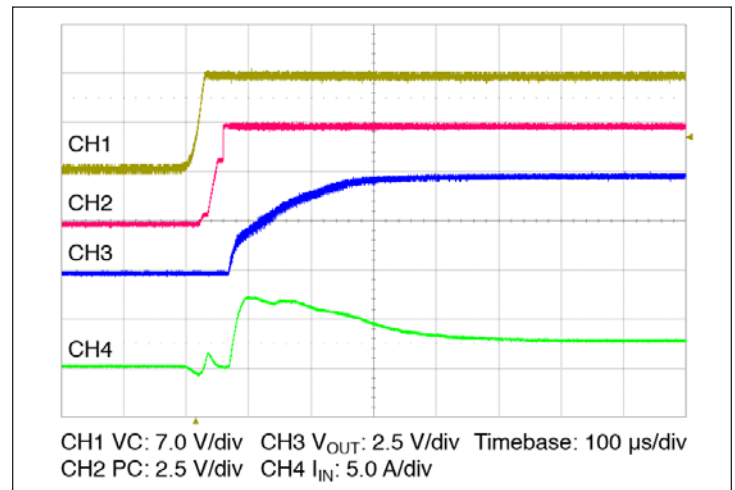

Figure 14 — Start up from application of V_C ; V_{IN} pre-applied
- Stand Alone Operation (VC applied after V_{IN}): In this case the module output will begin to rise upon the application of the VC voltage (See Figure 14). The Adaptive Soft Start circuit (See Section 10) may vary the output rate of rise in order to limit the inrush current to its maximum level. When starting into high capacitance, or a short, the output current will be limited for a maximum of 900 μ sec. After this period, the adaptive soft start circuit will time out and the module may shut down. No restart will be attempted until VC is re-applied, or PC is toggled. The maximum output capacitance is limited to 2000 μ F in this mode of operation to ensure a successful start.